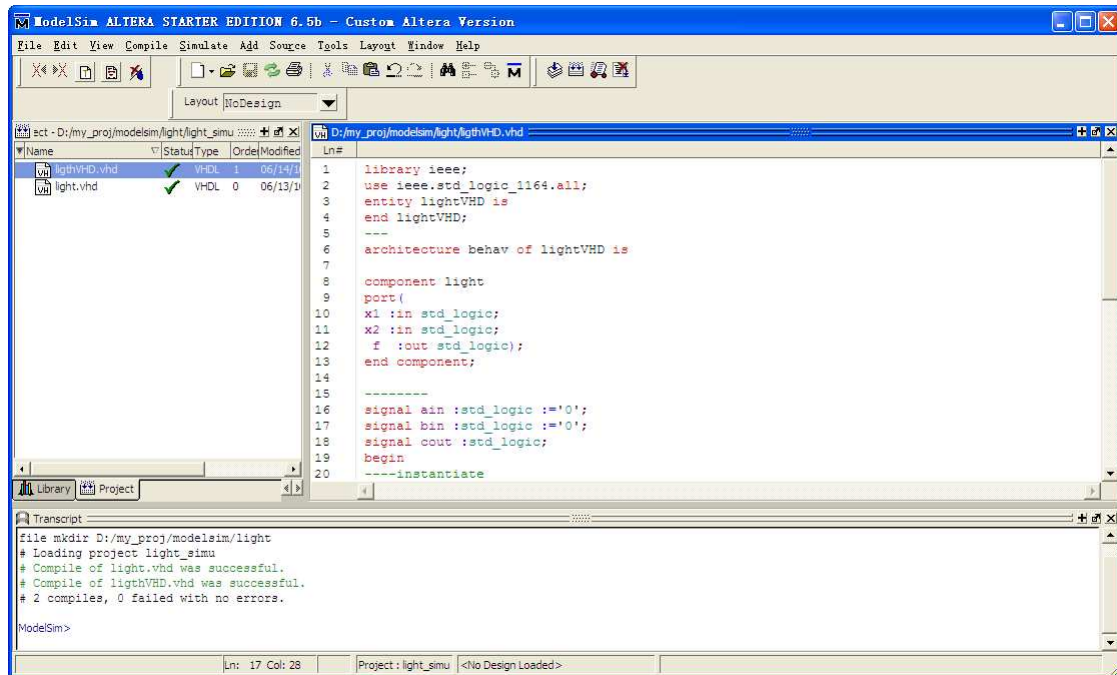

Figure 37. Compile the files
a. Right-click either ligh.vhd or lightVHD.vhd in the Project window and select **Compile > Compile All** from the pop-up menu. ModelSim not only compiles files but changes the symbol in the Status column to a green check mark as well. A green check mark means the compile succeeded, meantime, there **"Compile of lightVHD.vhd was successful"** in green will appear in the transcript window(Figure 37). If the compilation fails, the symbol will be a red **"X"**, and you will see an error message in the Transcript window.